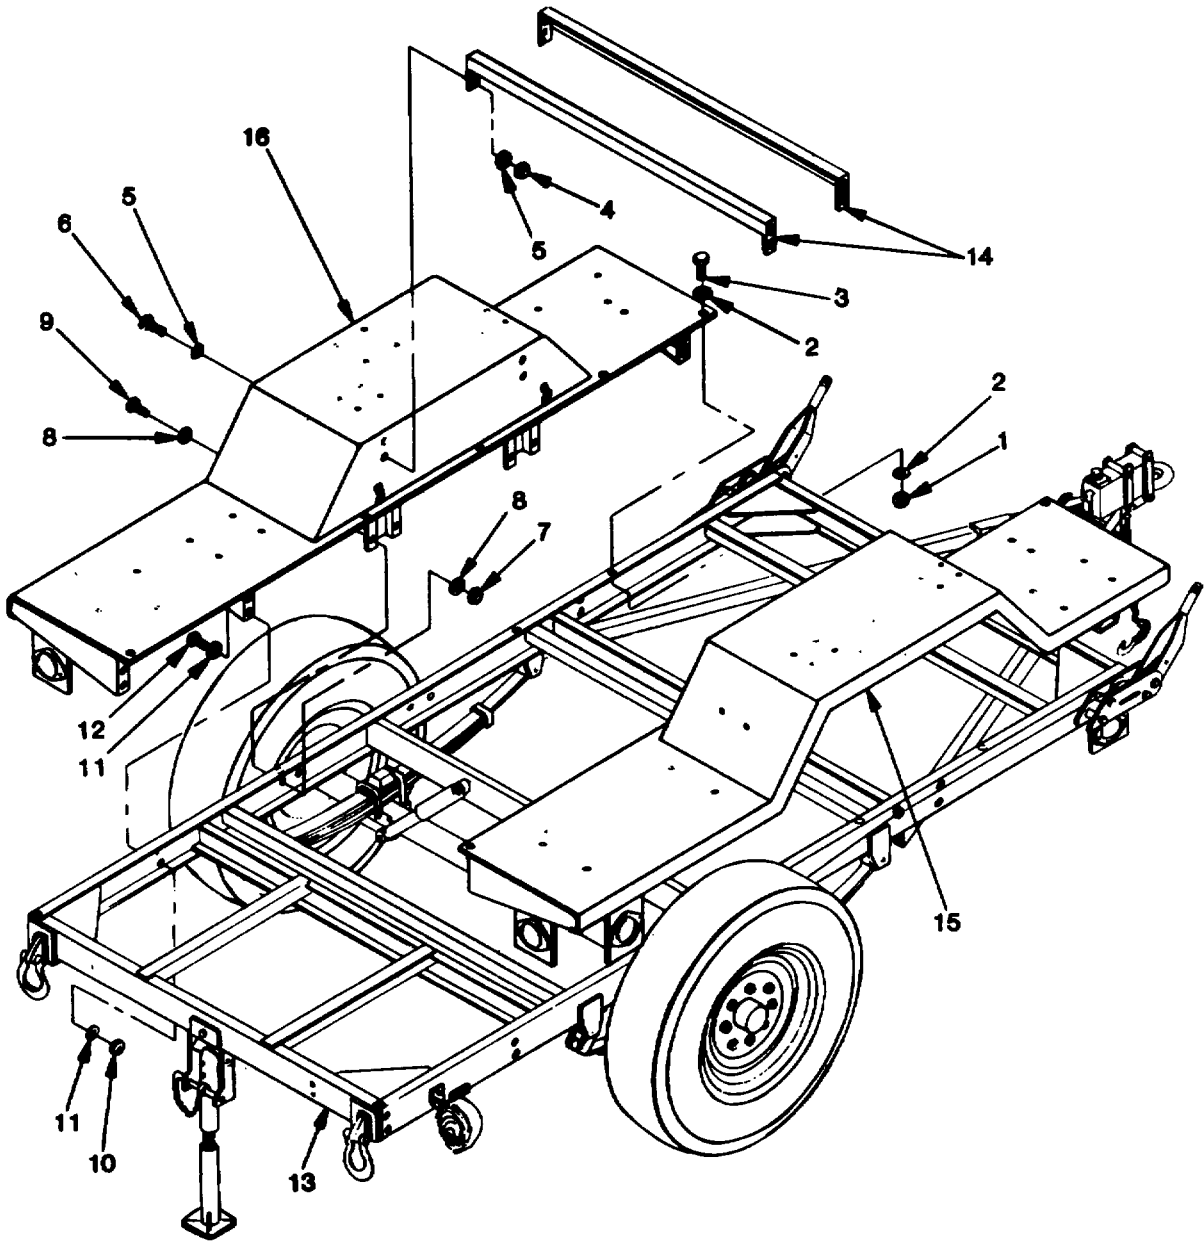

Figure 5-5. Fender/Fender Extension Replacement on AN/MJQ-32.
a. Removal. (See figure 5-5). The fender/fender extension of the modified trailer of the AN/MJQ-32 consists of a single weldment that includes both fender and fender extensions. The following procedures are the same for either the curbside or roadside fender/fender extension.
- (1) Removal (Curbside).
- (h) Remove 5 locknuts (1, figure 5-5), 10 flat washers (2), and 5 screws (3) securing inner edge of curbside fender/fender extension (15) to trailer frame (13).
- (i) Remove four locknuts (4), eight flat washers (5), and four screws (6) securing cross braces (14) to curbside fender/ fender extension.
- (j) Remove four locknuts (7), eight flat washers (8), and four screws (9) securing center portion of curbside fender/fender extension to trailer frame (13).
- (k) Remove 6 locknuts (10), 12 flat washers (11), and 6 screws (12) securing remainder of curbside fender/fender extensions to trailer frame.
- (2) Removal (Roadside).
c. Installation.(1) Installation (Curbside).
- (a) Position fender/fender extension (15, figure 5-5) on trailer frame (13). Use support, if necessary.
- (b) Install 5 screws (3), 10 flat washers (2), and 5 locknuts (1) and secure inner edge of fender/fender extension to trailer frame.
- (c) Secure cross braces (14) to fender/fender extension with four screws (6), eight flat washers (5), and four locknuts (4).
- (d) Install four screws (9) and four flat washers (8) through center portion of fender/fender extension and secure with four flat washers (8) and locknuts (7).
- (e) Install six screws (12) and six flat washers (11) through remainder of fender/fender extension and secure with six flat washers (11) and locknuts (10).